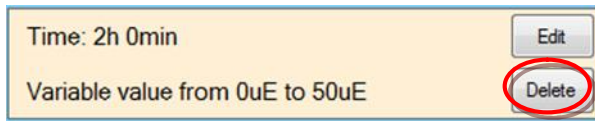

Figure 22 Deleting phase
- Choose the phase you want to delete from the list of phases and touch *Delete* button (Figure 22).